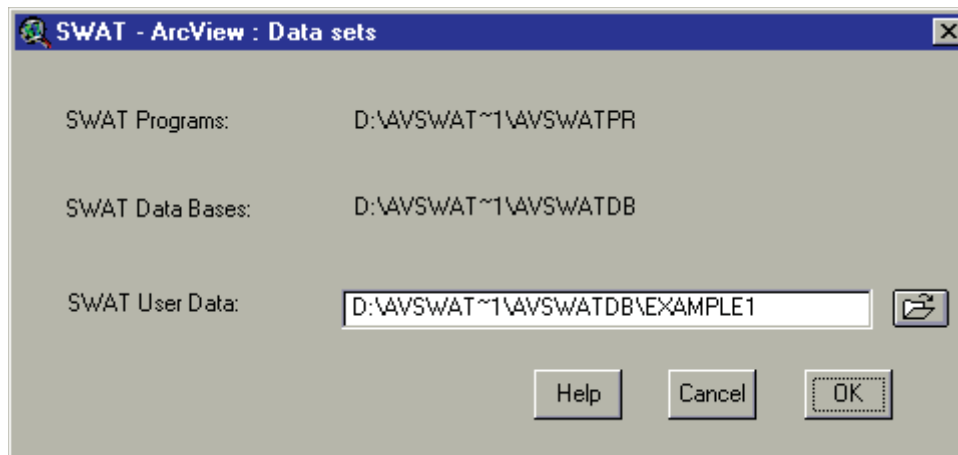

Figure 4.14
7. The prompt window will be shown with the selected directory (Figure 4.14). If the listed directory is correct, click **OK**.